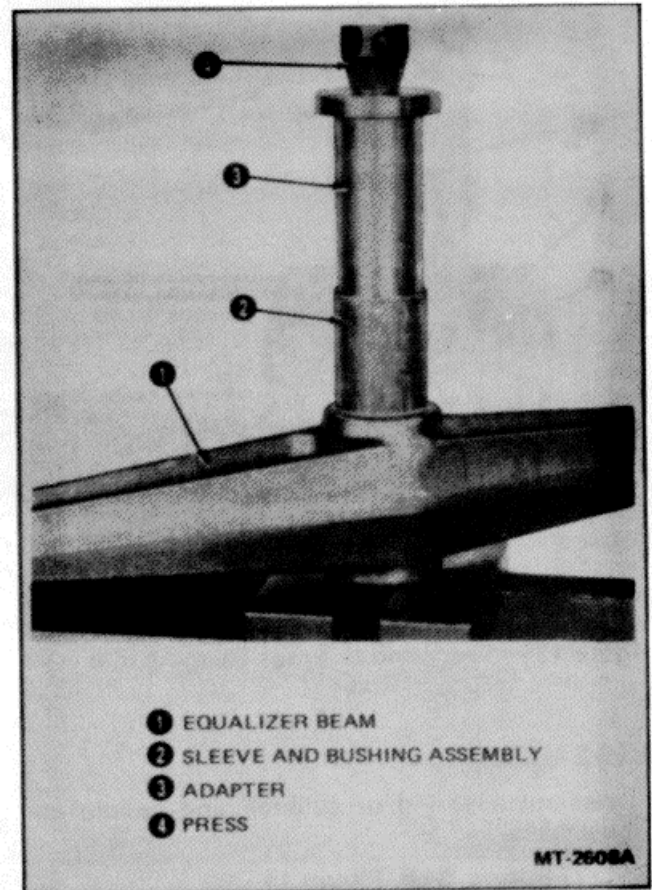

Figure 12 - Installing Center Sleeve and Bearing
3. Support beam in press. Using adapter press bushing and sleeve assembly into beam. See Figure 12. Bushing and sleeve assembly should be centered in beam.